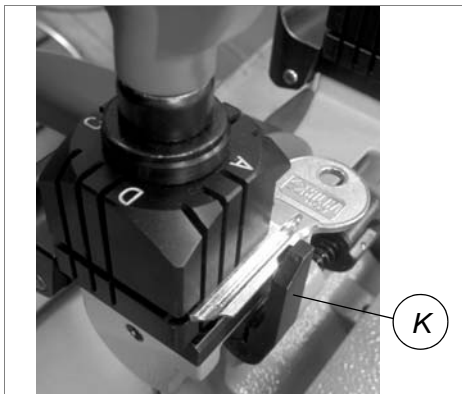
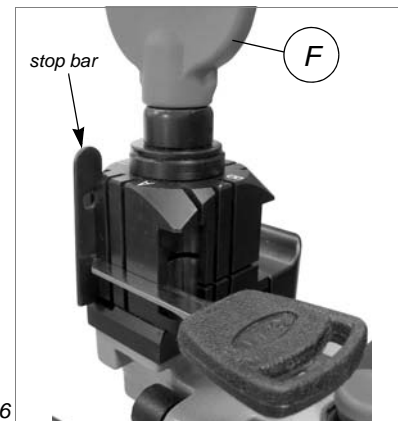

Fig. 15
Fig. 16
- b) the key stop butts against the gauge (K) (fig.15) or the key tip is up against the stop bar (fig.16).
- c) close the jaws by turning the knobs (F).